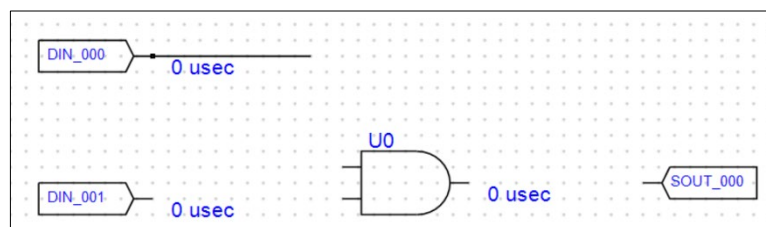

Figure 72 - Finish 1st Segment
- 2) Move the cursor to the end of the current segment and release the mouse button (Figure 72 - Finish 1st Segment).